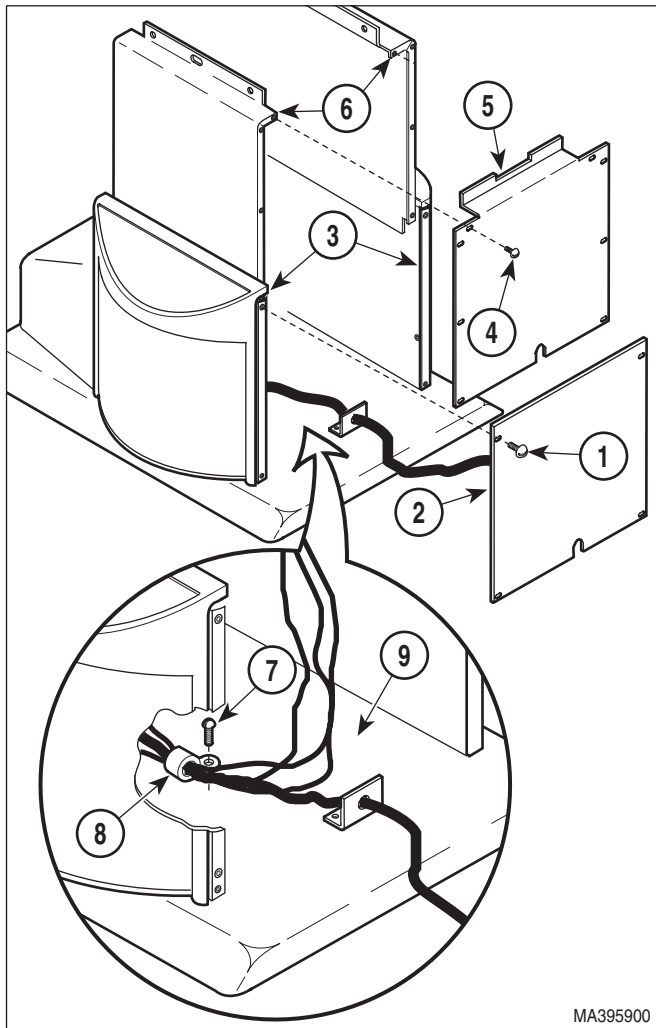
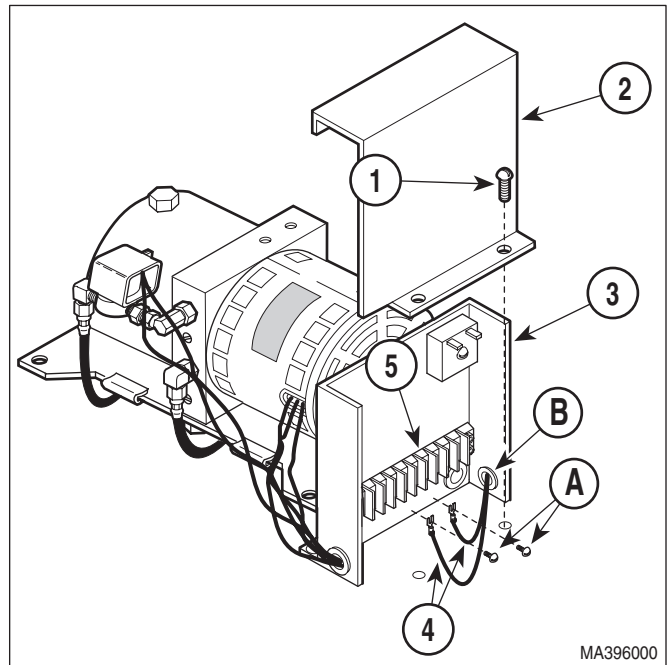
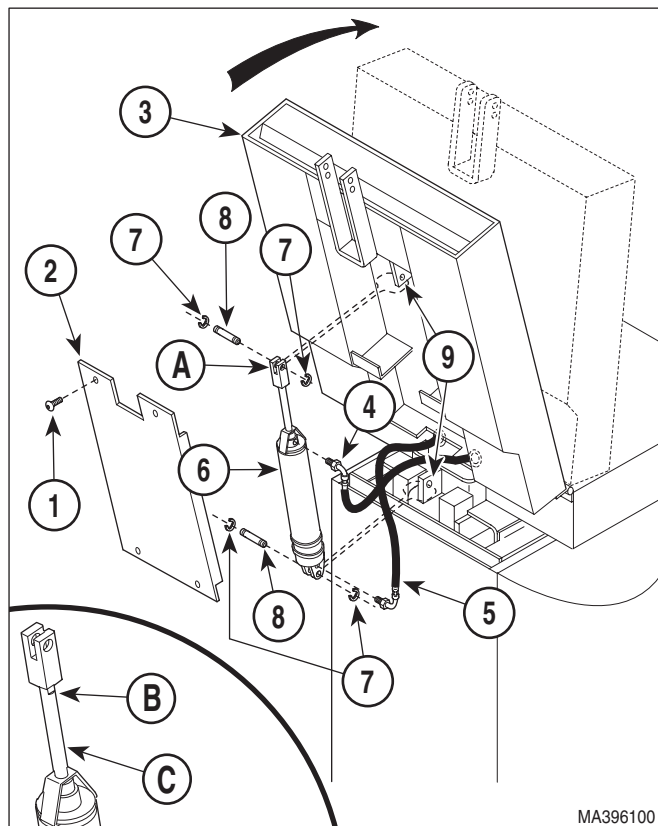

Figure 4-11. Table Access
**Figure 4-12. Back Cylinder Wires
Figure 4-13. Back Cylinder Removal / Installation
- (1) Unplug table power cord from outlet.
- (2) Remove upholstered seat section (Refer to steps 6 thru 8 of para 4.25).
- (3) Remove four screws (1, Figure 4-11) and front outer shroud (2) from left and right hand outer shrouds (3).
- (4) Remove eight screws (4) and front inner shroud (5) from left and right hand inner shrouds (6).
- (5) Remove screw (7) and wire clip (8) securing wires and hoses to base weldment (9).
- (6) Remove motor cover assembly (Refer to para 4.2).
- (7) Remove two screws (1, Figure 4-12) and control cover (2) from control panel (3).
- (8) Loosen two terminal screws (a); then tag and disconnect back cylinder wires (4) from terminal block (5).
- (9) Pull back cylinder wires (4) out thru wire hole (B).
- (10) Remove four screws (1, Figure 4-13) and back cover (2) from back weldment (3).
- (11) Cut two cable ties which are securing hose assemblies (4 and 5) to back cylinder (6).
- (12) While supporting back weldment (3), remove four E-rings (7), two clevis pins (8), and partially separate back cylinder (6) from cylinder brackets (9). Fold back section over onto seat section.
- (13) Tag hose assemblies (4 and 5).
- (14) Disconnect hose assembly (4) from back cylinder (6).
- (1) Connect hose assembly (5, Figure 4-13) to back cylinder (6).
- (2) Connect hose assembly (4) to back cylinder (6).
- (3) Install back cylinder (6) on cylinder brackets (9) and secure with two clevis pins (8) through clevis (A) with four E-rings (7).
- (4) Secure hose assemblies (4 and 5) to back cylinder (6) with two cable ties.
- (5) Route back cylinder wires (4, Figure 4-12) thru table.
- (6) Feed back cylinder wires (4) thru wire hole (B).
- (7) Connect two back cylinder wires (4) to terminal block (5) and secure by tightening two terminal screws (A).
- (8) Install control cover (2) on control panel (3) and secure with two screws (1).
- (9) Secure wires and hoses to base weldment (9, Figure 4-11) with wire clip (8) and screw (7). Install any cable ties removed during removal.
- (10) Install front inner shroud (5) on left and right hand outer shrouds (6) and secure with eight screws (4).
- (11) Install front outer shroud (2) on left and right hand inner shrouds (3) and secure with four screws (1).
- (12) Install upholstered seat section (Refer to step 6 of para 4.25).
- (13) Plug table power cord into outlet.
- (14) Lower BACK DOWN function all the way down.